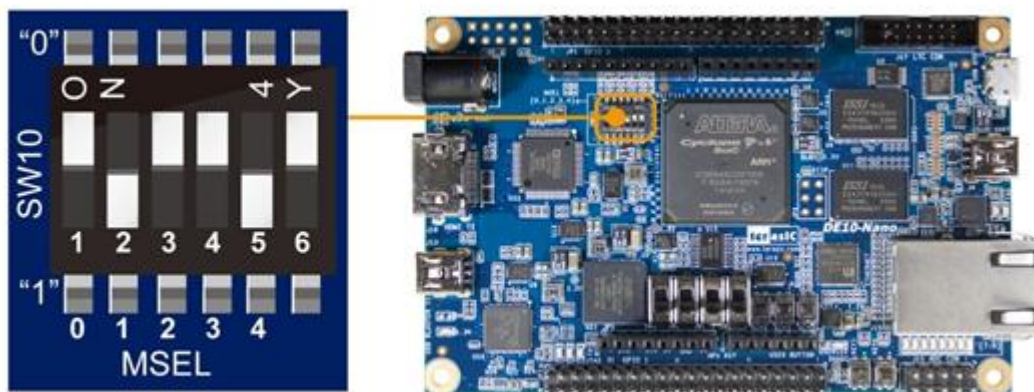

Figure 7-5 Set MSEL[4:0] to "10010" for NIOS Version Mode
- As shown in **Figure 7-5**, set the mode switch (SW10) MSEL[4:0] to "10010".